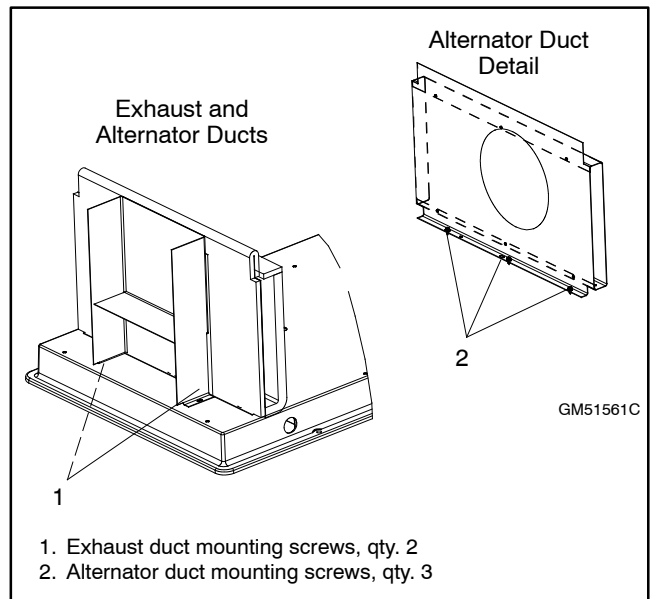

Figure 7-19 Exhaust and Alternator Ducts
- a. Remove two bolts securing the exhaust shield at the exhaust end and remove the shield. See Figure 7-19.
- b. Remove three bolts securing the alternator air inlet duct to the base and remove the duct. See Figure 7-19.